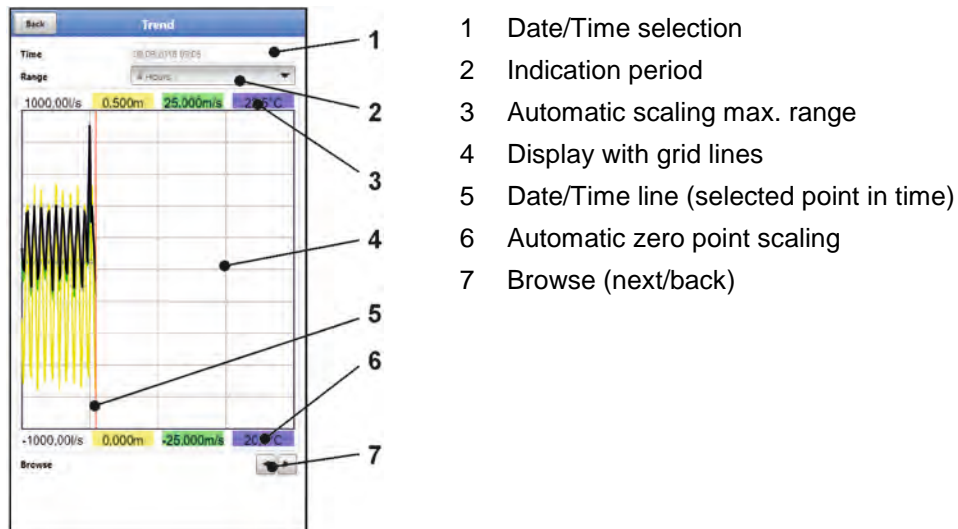
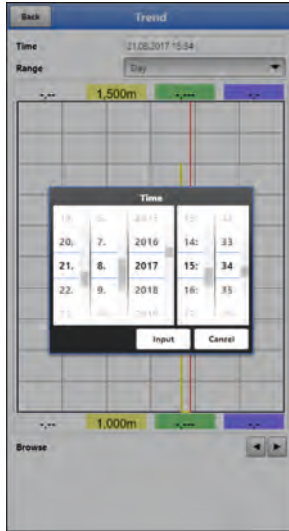

Fig. 37-2 Trend Graph Details
Fig. 37-3 Selecting Time/Date
1. Select the desired range (indication period; Fig. 37-2 no. 2).
2. Use the arrows (Fig. 37-2 no. 7) to browse next or back if required leaving the basic display settings unaltered.
Opening the Trend menu shows the current date and time. If you wish to view historic readings/a particular point in time select the desired period from the Date/time selection screen (Fig. 37-2 no. 1). Here the selection mask below opens up (Fig. 37-3). The readings are indicated (depending on the period set) in the subsequent screen once a start date is selected.